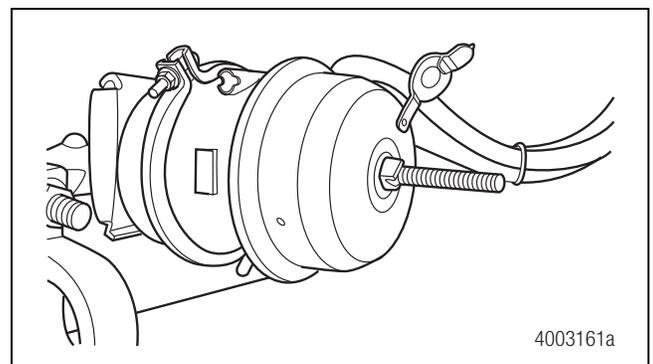

Figure 3.3
6. If the axle is equipped with spring brake chambers, carefully compress and lock the springs so that they cannot actuate. Figure 3.3.